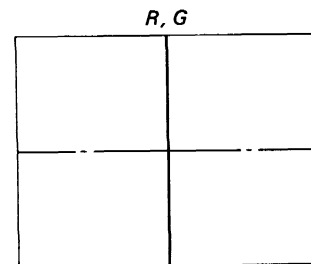

Fig. 3-49
- (3) Adjust RV5514 (H BOW (R)) so that the red vertical center line is parallel with the green vertical center line.
- (4) Adjust RV5502 (H CENT (R)) to converge the red vertical center line and the green vertical center line as shown in Fig. 3-49.